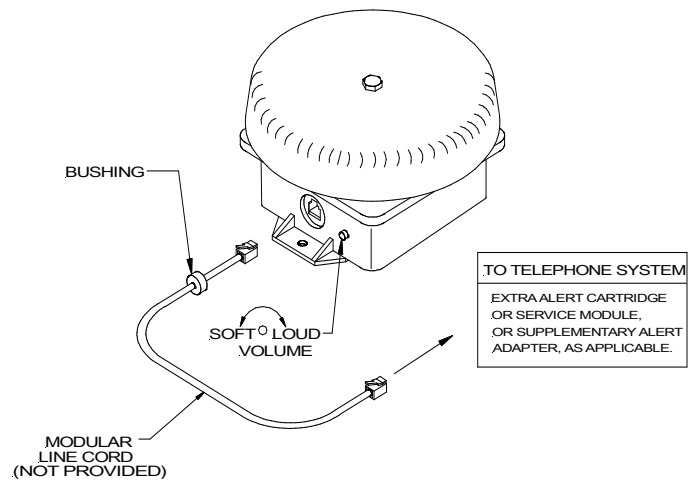

Figure 2: Modular Connection
- d. Route the telephone cord (not provided) through the bushing and plug the cord into the units modular phone jack, then plug the bushing into the phone jack opening of the backbox, per Figure 2.